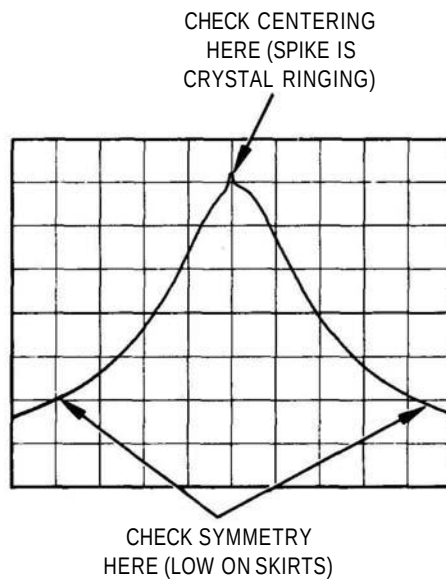

FIGURE 5-7. ADJUSTING CRYSTAL SYMMETRY AND CRYSTAL CENTERING
13. Adjust front-panel **TUNING** control to center bandpass spike (Figure 5-7) on the CRT display.
14. Adjust **A13C38** SYM and **A13C54** CTR for a centered and symmetrical bandpass as shown in Figure 5-7. Adjust **A13C54** CTR for minimum signal amplitude.